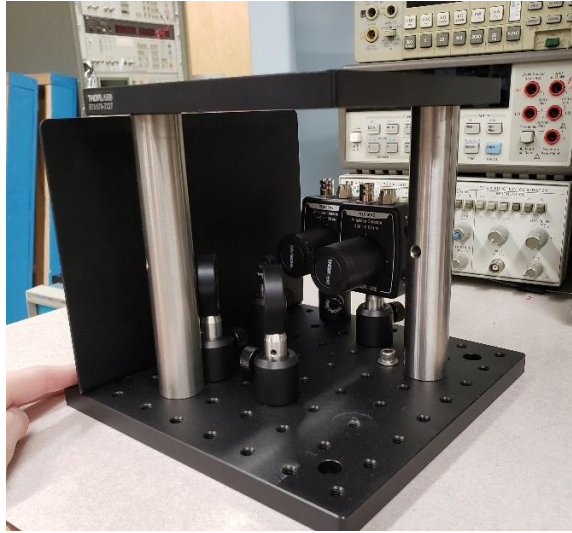

Figure 1: PDH Loop from Shipment
- a. Figure 1 shows the PDH loop instrument from shipment